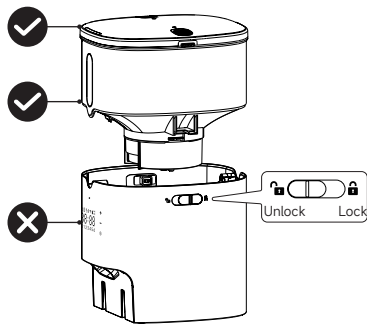

Figure 2
- ② Unlock the bucket lock, and draw up the food bucket (Figure 2)
- ③ Please clean and drain the bucket and stainless steel inner bowl (wipe dry) before installing and using.